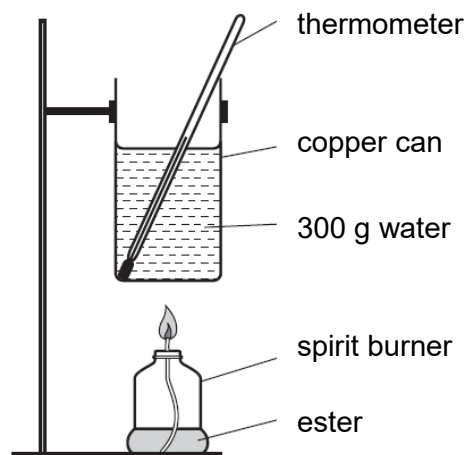

Fig. 1.1
- (a) Simple esters are flammable liquids. The standard enthalpy change of combustion for some simple esters can be experimentally determined using the set-up shown in Fig. 1.1.
Methyl ethanoate was combusted in a spirit burner which heated 300 g of water in a copper can as shown in Fig. 1.1. It was found that 0.980 g of methyl ethanoate was required to raise the temperature of the water in the copper can by 10.0 °C.